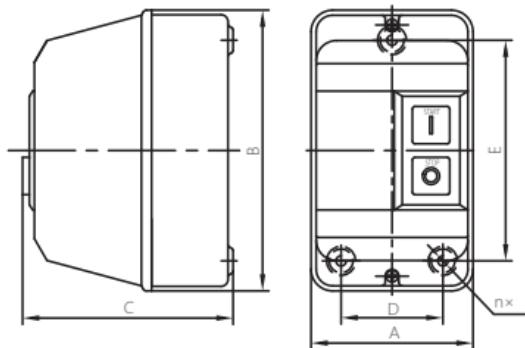

Figure 1 Outline and installation size
1) See Fig. 1 and Table 4 for the outline and installation size of the starter.
Reference picture	See Fig. 1